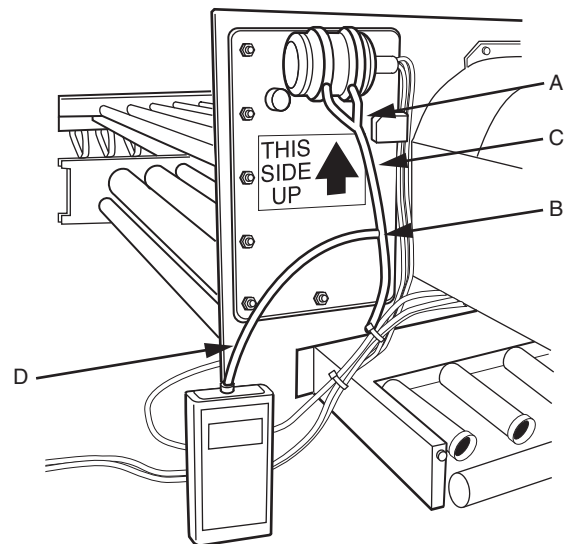

Fig. 85 — Draft Fan Pressure Measurement
1. Remove air pressure supply tube from fan at pressure switch connection. See Fig. 85, A.
2. Insert "T" into supply tube. See Fig. 85, B.
3. Attach additional piece of tubing from "T" to pressure switch. See Fig. 85, C.
4. Connect remaining leg of "T" to pressure measuring device (measure in. wg). See Fig. 85, D.